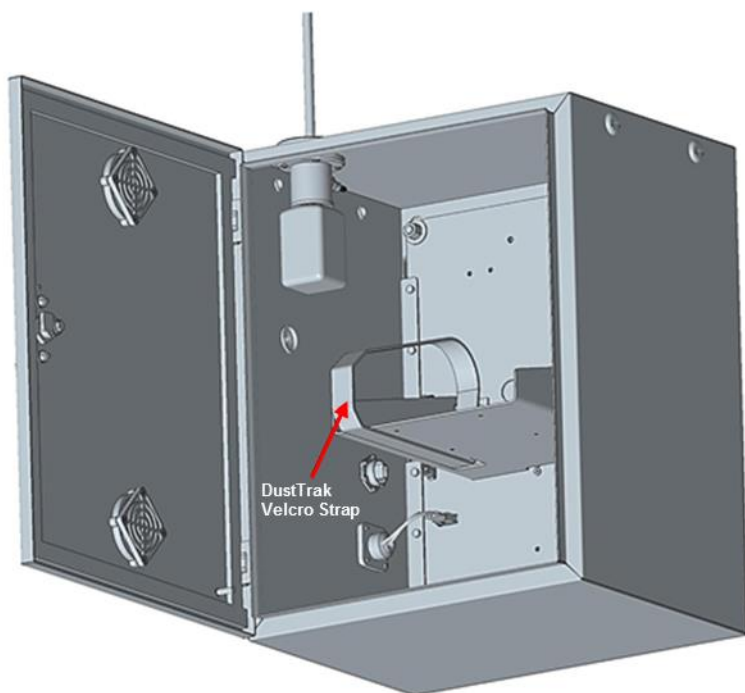

Figure 10: DustTrak Aerosol Monitor Velcro[®] Straps
1. A Velcro[®] strap is provided to secure the DustTrak monitor to the Enclosure. Make sure the Velcro[®] straps are present in the Enclosure bracket as shown in Figure 10.